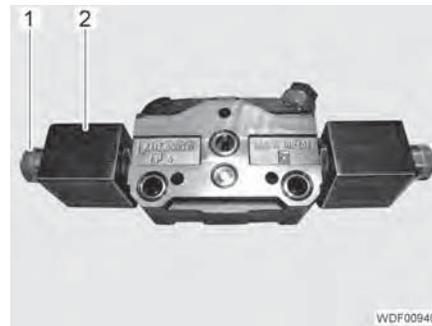

Fig. 169 Additional segment
- Unscrew 1 nut (Fig. 169,1) on both sides.
- Remove 1 coil (Fig. 169,2) on both sides.